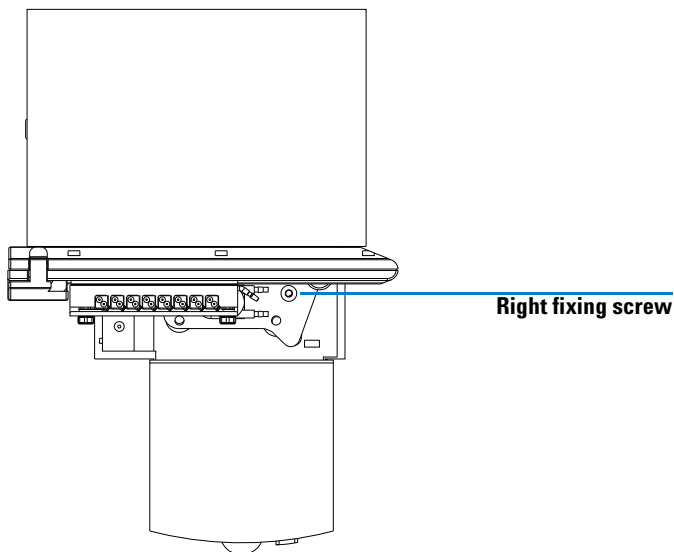

Figure 31 Top View of the Multicell Transport in Spectrophotometer
- 1 Place the multicell transport in the sample compartment of the spectrophotometer. See Figure 31.